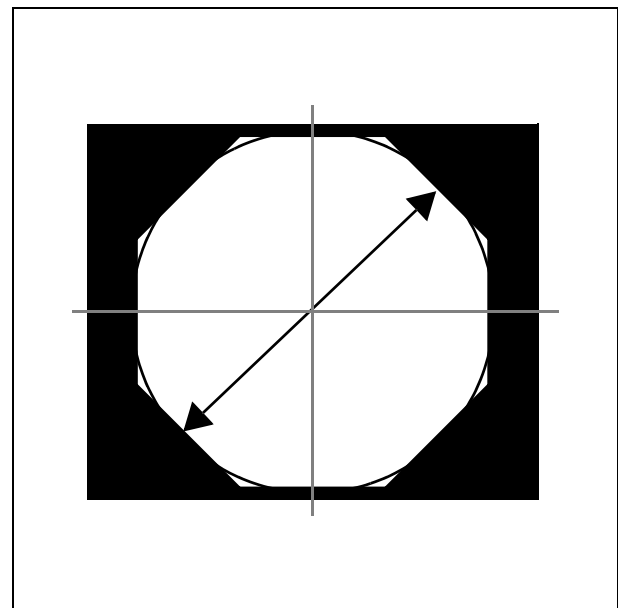

Fig. 8
- Record the diameter (Fig. 8) of the octagonal area of the radiation field.